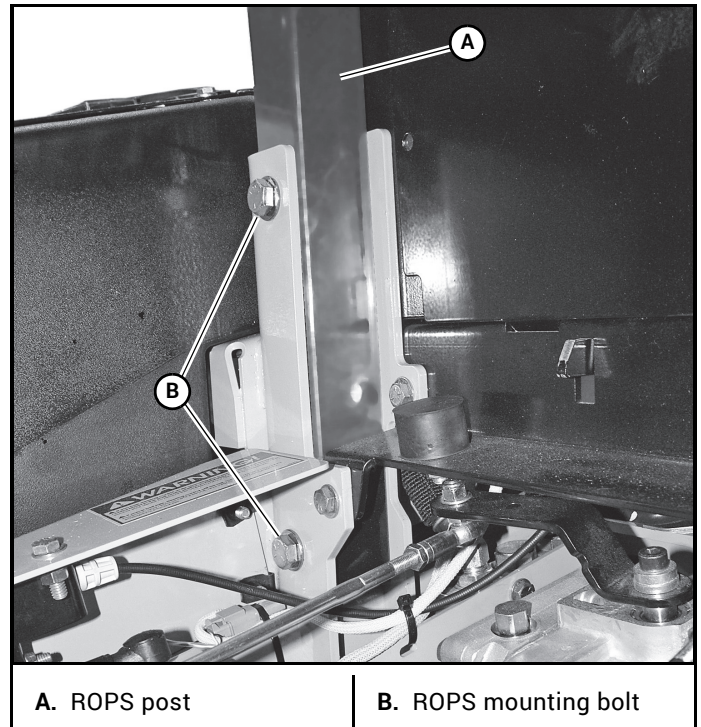

Figure 3-13
1. Check the torque of the ROPS mounting bolts (Figure 3-13). Tighten the bolts to the correct torques as shown below if necessary.